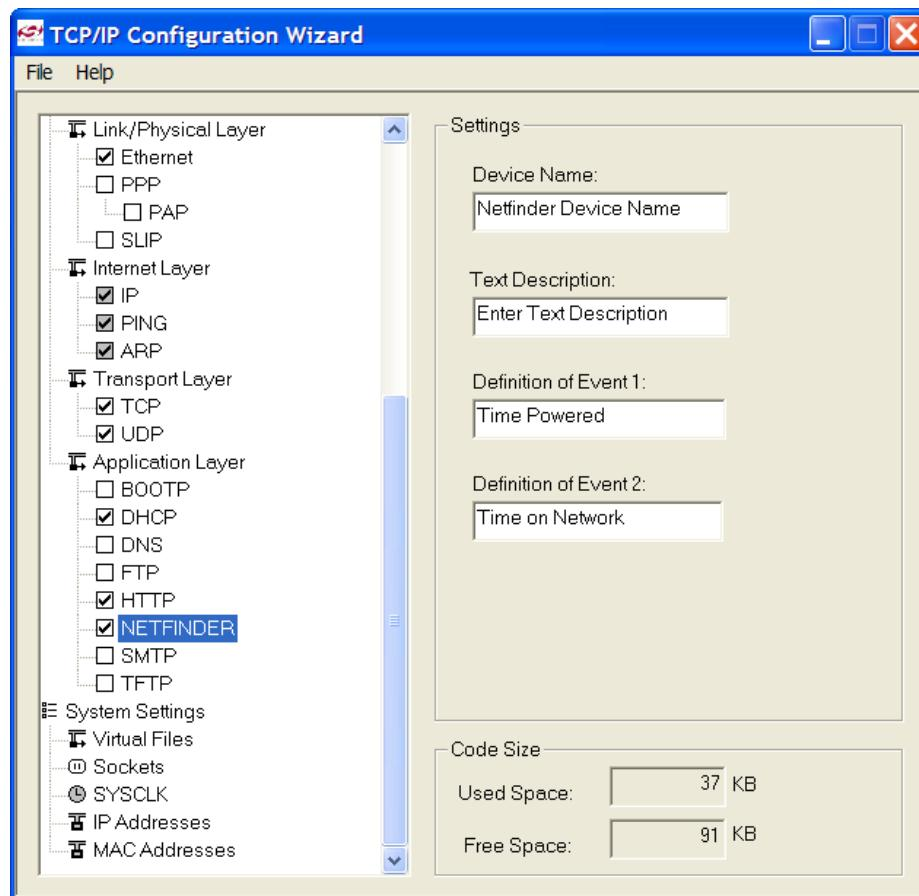

Figure 14. TCP/IP Configuration Wizard Protocol Selection
4. In the **Protocol Settings** section of the left window, make sure **Ethernet** is selected then check **DHCH, HTTP, and NETFINDER**. The lower level protocols (TCP and UDP) will automatically be enabled as shown in Figure 14.